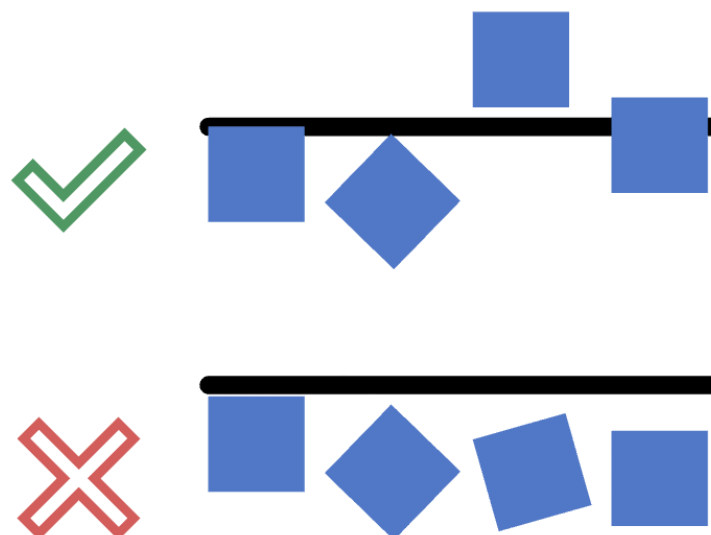

Figure 3. Examples of completion (✓) or not (✗).
- **Criteria for Completion:** The structure will be considered meeting the completion criteria if the vertical projection of any block overlaps with the assessment line for five consecutive seconds. At this point, the team must end the round and stop the movement of the robotic arms. The completion status will be judged from an overhead camera view installed above the workbench. Completion examples are shown in Figure 3 (the block placement area is below each black evaluation line).